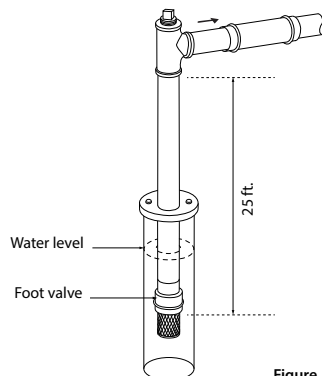

Figure. 2
- Have a vertical depth between the pump and the water being pumped of 25 ft. or less. (Figure. 2)